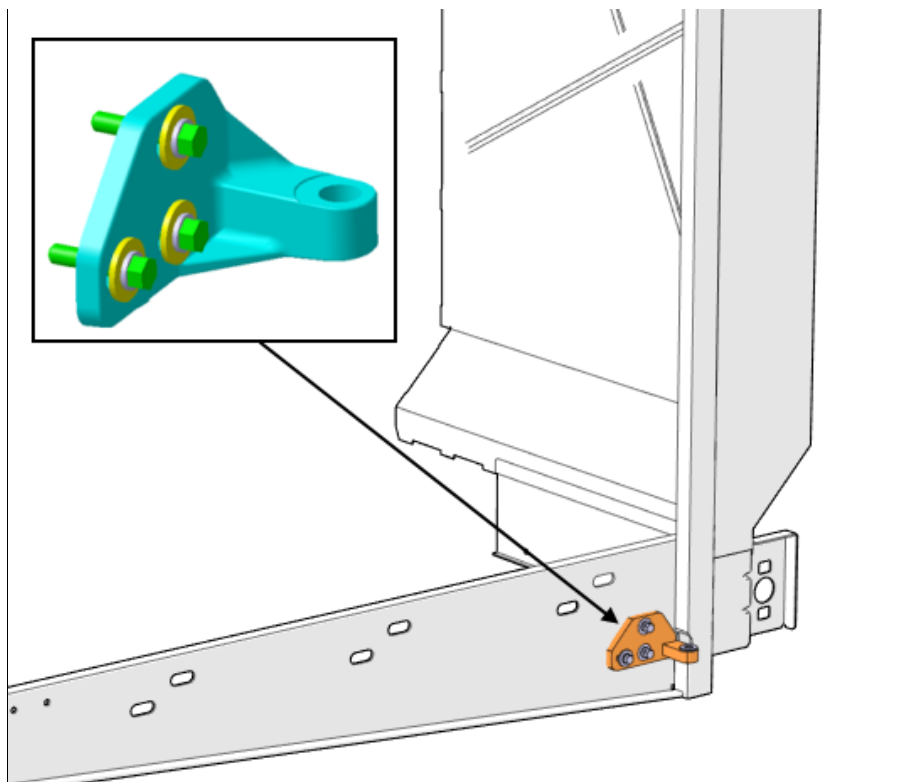

FIGURE 10: HINGE PART TO BE REMOVED (COMPRESSOR DOOR)
2. Unscrew, remove & discard the *vehicle structure part* of the condenser door lower hinge (3X M6 bolts Figure 10)